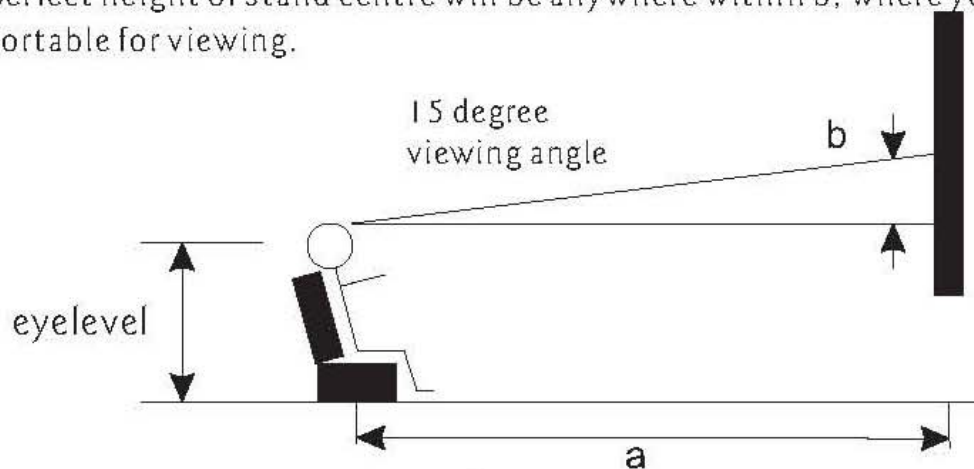

Fig 3a
- 1) the distance between wall and couch(Fig 3a).
- 2) the distance of eyelevel from ground level plus the distance measured from eyelevel of a person sitting on couch with viewing angle of 15°(Fig 3a).